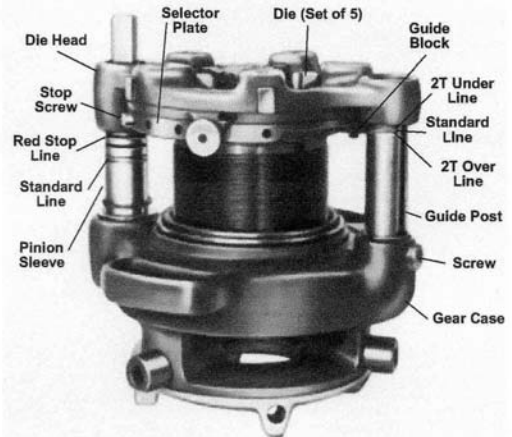

Figure 17 – No. 141 Geared Threader with 844 Drive Bar Installed (No. 161 Threader Similar)
1. Remove stop screw (Figure 17) from selector plate.
IMPORTANT! Allow approximately 3/4" of V-shaped grooves exposed in front of chuck jaws (Figure 17) to allow space for oiling.
5. 141 and 161 – Release foot switch when red STOP line appears on pinion sleeve (Figure 17).